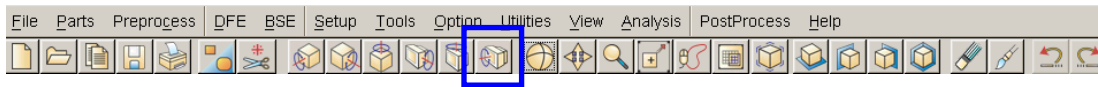

Figure 7: Rotate about Z-axis icon
2. Rotate the geometry dynamically about the z-axis approximately 90° by using the **Rotate about Z-Axis** function. The function is shown in Figure 7: